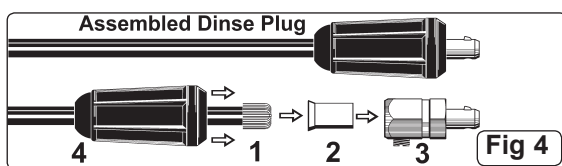
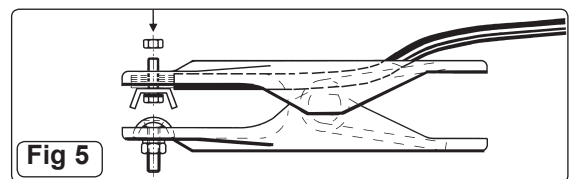

Fig 4
Fig 5
4.2 WELDING CABLE CONNECTIONS. The torch cable is supplied ready assembled but it may be necessary for you to assemble the work clamp cable. Attach the work clamp to one end of the cable as shown in fig.5. To connect the Dinse Plug as shown in fig.4 first thread the cable through the outer cover of the plug (see fig.4 - 4). Now remove 20mm of insulation sheath from the end of the cable and fold back the copper wire all around the outside of the sheath (1). Push the cable end into the copper sleeve (2) so that the folded back wire makes good contact with the inside of the sleeve. Push the copper sleeve into the brass plug body (3) and tighten the large grub screw until the cable is firmly held. Now slide the outer plug cover up the cable and press the brass body into it as shown in fig.4.